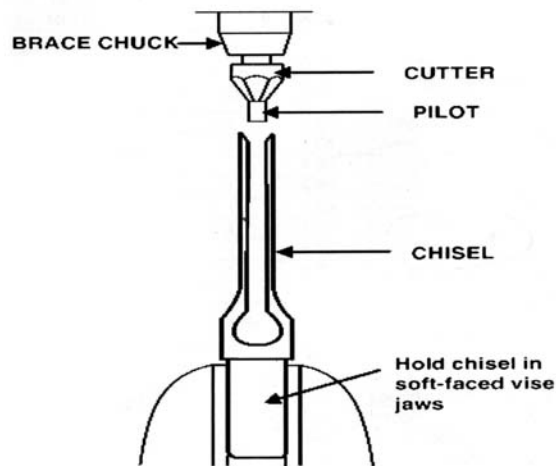

FIGURE 8
2. Sharpen the chisel with a mortise chisel cutter with the correct size pilot. (Pilot size will differ depending on the size of your chisel) Two or three turns of the cutter in a carpenters brace chuck should be enough to sharpen the chisel, as shown in Figure 8.